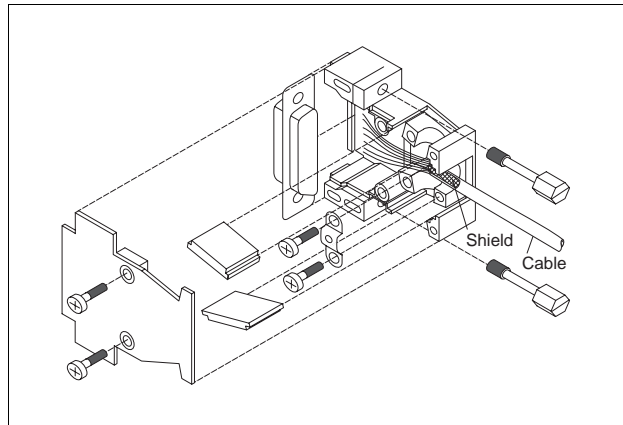

Fig. 2-7 Shaft encoder connector assembly – unit side
3. Screw two hexagon head bolts (fig. 2-7) into the connector shell.